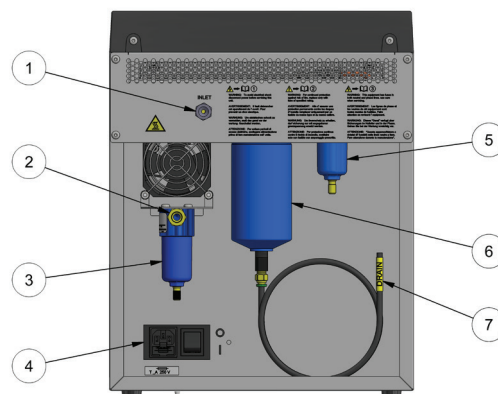

Figure 5 - Rear View
The Parker Chromgas™ Zero Air Generator should be installed in an area relatively free from excessive dust and dirt, where the ambient temperature is between 60°F and 100°F (16°C and 43°C). **Do not install the generator outdoors.** There is no limit to the distance between the generator and the point of use as long as tubing type, size, cleanliness, and pressure drop are taken into consideration. Approximately 6" of space should be allowed along the top and back of the generator to ensure proper ventilation. Refer to Figure 5 for the REAR view of the generator with all of the required connections.
**Refer to Figure 5 that shows the three filter assemblies on the back of the ZAG unit that should be replaced annually. Item 3 is the final filter, Item 6 is the primary pre-filter, and item 5 is the secondary pre-filter.** To replace the filter cartridges, the system should first be shut down and de-pressurized. Next, simply unscrew the filter "bowls" by grasping the outside of the filter assembly and turning it counterclockwise until the bowl becomes totally detached from the "head" and the internal filter cartridge is exposed. If the filter bowl is too tight, you can try using a tool such as